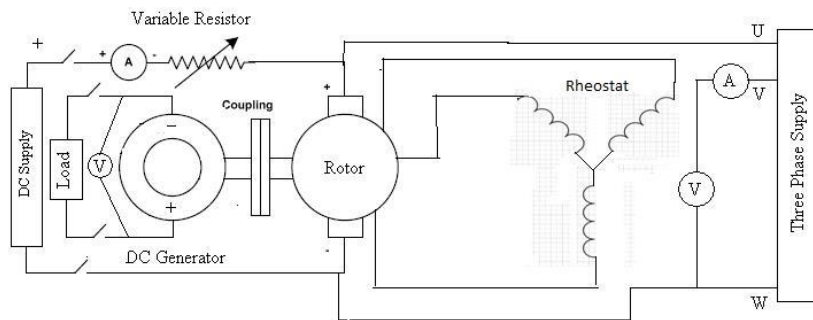

Figure 14.1. Torque speed curve of Induction motor
1. According to the given diagram shown in Figure 14.1 connect the different electrical wires.